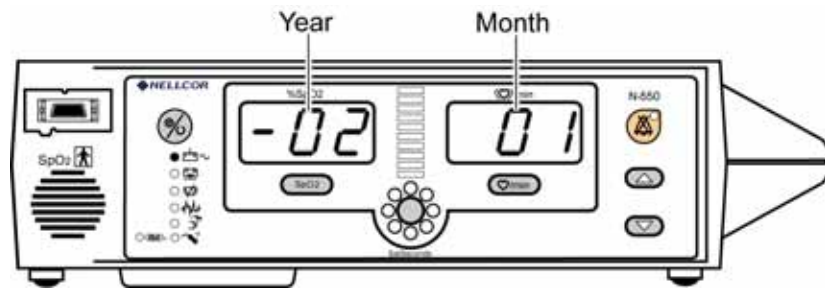

Figure 10: Year Month Display
If menu item 8 is selected, the N-550 Year, Month, Day, Minutes, and Seconds may be viewed and set. After selecting menu item 8, pressing the *SatSeconds* Alarm Limit button displays the Year and Month setting of the N-550. See Figure 10. The “-” indicates that the Year is selected. Pressing the *SatSeconds* Alarm Limit button will move the “-” to the Month display. When an item is selected, indicated by the “-”, the value may be set by pressing the Adjust Up or Adjust Down button.